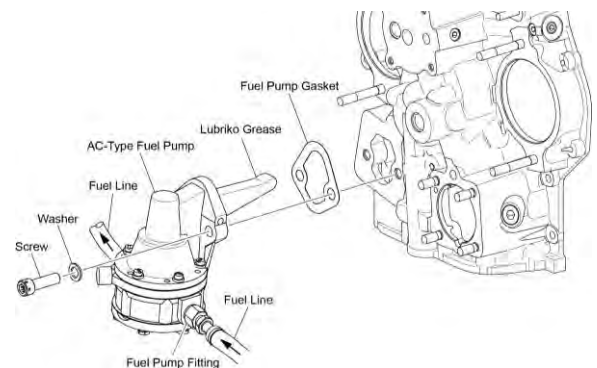

Figure 13
- (1) Put a fuel collection container under the fuel line connections at the AC-type fuel pump (Figure 13).
- (2) Apply a label and disconnect the fuel lines to the fuel pump.
- (3) Remove the two screws and washers from the fuel pump.
- (4) Remove the fuel pump and gasket from the accessory housing. Discard the gasket.
- (5) Remove the fuel collection container.
- (1) Turn the crankshaft to move the fuel pump plunger to the highest position.
- (2) Apply Lubriko M-6 grease to the shaft of the AC-type fuel pump.
- (3) Apply Loctite[®] 564 or equivalent to the fuel pump screws.
- (4) Install the fuel pump with a new gasket on the accessory housing as shown in Figure 13 with the two washers and two screws.
- (5) Torque the screws to 225 to 250 in.-lbs. (25 to 28 Nm).
- (6) Connect the fuel lines to the fuel pump. Torque the fuel fitting to 23 to 24 ft.-lb. (31 to 35 Nm). Make sure that the fuel lines are securely connected.
- (7) During the “Operational Ground Check” in Chapter 72-00 (which is to be done after all maintenance is complete), look for fuel leaks at the fuel lines and connections during engine operation. Identify and correct the cause of any fuel leak. There must not be any fuel leak when the engine is returned to service.